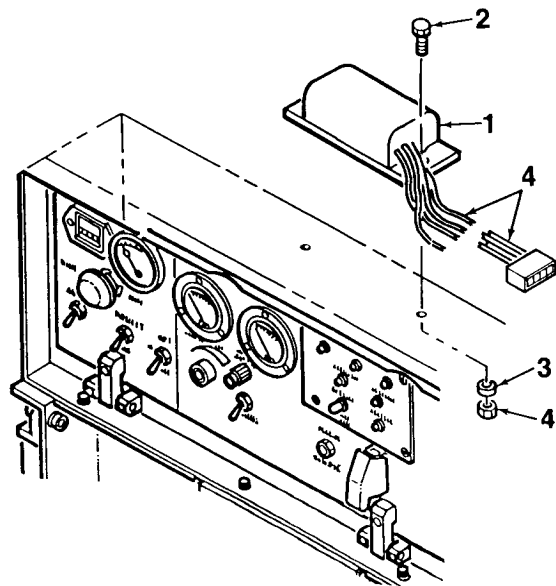

Figure 4-20. Battery Charging Regulator
3. Disconnect electrical plug from battery charging regulator (1, Figure 4-20).
4. Remove battery charging regulator (1) from top of control box by removing screws (2), washers (3), and locknuts (4).
1. Mate battery charging regulator (1, Figure 4-20) to top of control box. Secure using screws (2), washers (3), and locknuts (4).
2. Connect electrical plug to battery charging regulator (1).